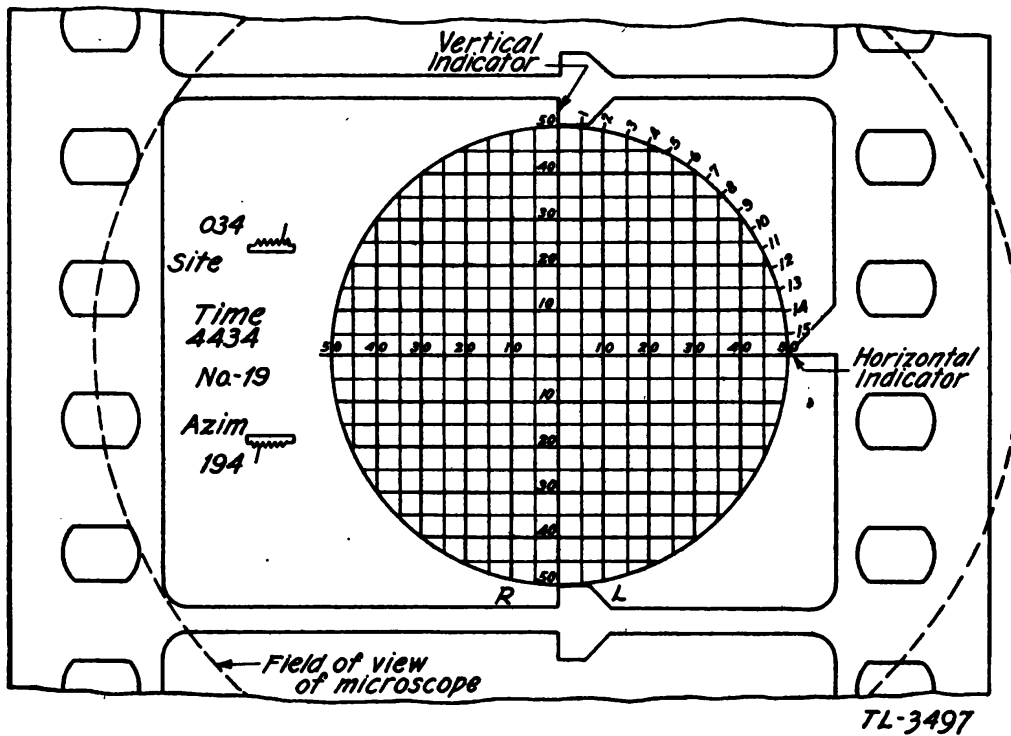

FIGURE 24.—Single frame of film showing reticle image.
c. Adjusting optical system.—Operate the light switch to the "on" position. Loosen the eyepiece locking screw (fig. 13) and, while looking into the eyepiece of the viewing attachment, slide the eyepiece barrel to focus the eyepiece on the circular reticle and tighten the locking screw (do not force). Using the foot controller, operate the viewer in the backward direction until a frame of film with the vertical and horizontal indicator marks comes into the field of the viewing attachment and stop the viewer. Operate the viewer by hand (using the smooth handwheel on the left side) to a position where slight back and forth movement of the handwheel does not move the film. Then, using the vertical framing lever, the horizontal framing screw, the reticle rotating ring, and the magnification adjustment (loosen locking screw before adjusting magnification), adjust to make the indicator marks and the reticle appear in the eyepiece as shown in figure 24.
(1) Record the azimuth and site readings for 5-second intervals as you run the film through the viewer. Read the O_1 film first and then take corresponding readings for corresponding times on the O_2 film.
(2) Bursts will appear either as a light spot on a dark background or a dark spot on a light background. When you see the image of a burst stop the viewer immediately, change the direction of operation to forward and operate the viewer until the time reading on the film changes to one unit less than the reading on the first frame on which the burst was photographed. Change direction to backward and operate the viewer by hand until the first frame on which you saw the burst comes into view, counting the frames having the same time number on them. Record the time reading and the number of the first frame showing the burst. (Example: 113-6 indicates 113th second and sixth frame.) Adjust the reticle-indicator relationship as described in *c* above.
(3) Read and record the site and azimuth readings on the film. These readings are composed of three digits and a sawtooth scale with a line crossing it. The location of the line crossing the sawtooth scale indicates the units reading; the crests of the teeth represent (from left to right) 1, 3, 5, 7, and 9 mils and the troughs 2, 4, 6, 8, and 0 mils. The figures on the counters represent the tens, hundreds, and thousands. The readings in figure 24 are: site 349 mils, azimuth 1,943 mils.
(4) Rotate the reticle (using the knurled ring) until the reading (0-16 hundred) on the circumference at the upper vertical indicator is the same as the site reading in hundreds on the film. Interpolate
between marks to nearest 50 mils. For example, the site reading in figure 24 is 349, which you would call 3½ hundreds. The reticle would be rotated to 3.5 on the circumference scale.